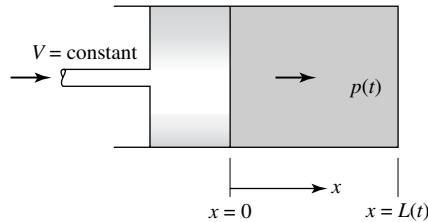

Fig. P4.18
**4.18** A piston compresses gas in a cylinder by moving at constant speed  $V$ , as in Fig. P4.18. Let the gas density and length at  $t = 0$  be  $\rho_o$  and  $L_o$ , respectively. Let the gas velocity vary linearly from  $u = V$  at the piston face to  $u = 0$  at  $x = L$ . If the gas density varies only with time, find an expression for  $\rho(t)$ .